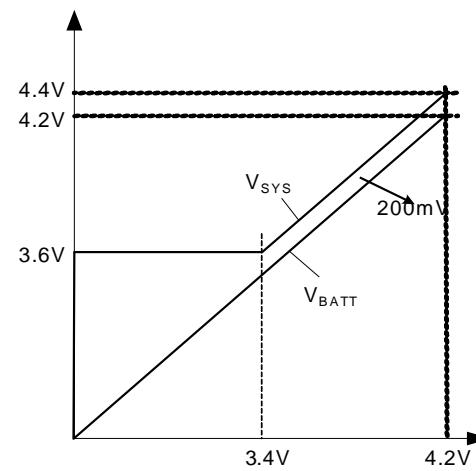

Figure 2 — MP 2617B SYS Regulation Output
- 2) If  $BATT < 3.4V$ ,  $V_{SYS}$  is fixed at 3.6V to power the system immediately even when a drained battery is inserted to be charged. Figure 2 shows the relationship of  $V_{SYS}$  vs.  $V_{BATT}$ .
System voltage can also be regulated to any value between 4.08V to 4.4V in MP2617B (4.22V to 4.63V in MP2617A) by using a resistor divider on the SYSFB pin. This is shown as R6 and R7 in Figure 10. If the SYSFB is left floating, the system program is invalid, and  $V_{SYS}$  is regulated as Figure 2.